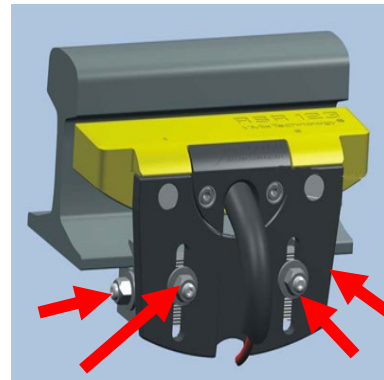

Figure 4 - M12 Nuts
- b) Figure 4 M10 nuts to 15Nm (Checked during installation/replacement only).